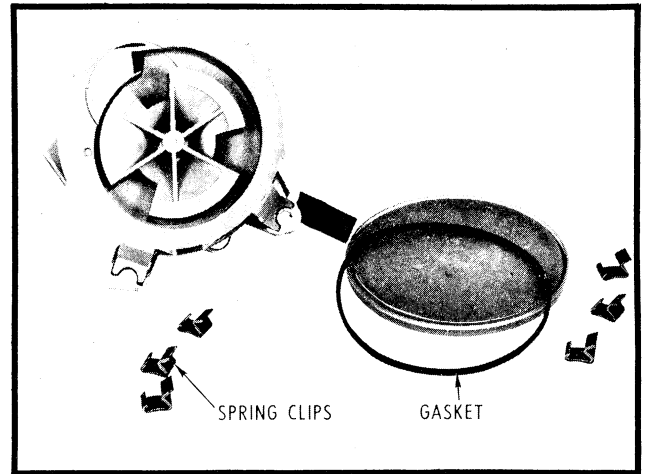

Figure 95C
- A. Remove the spring clips (6) that hold the cover to the pump body, *Figure 95C*.